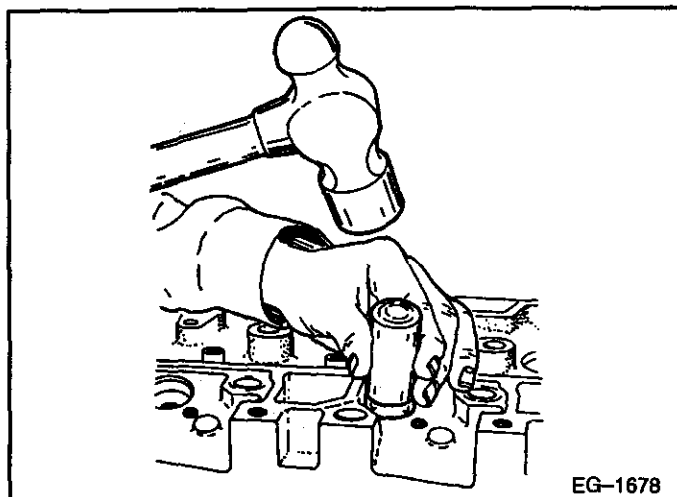

FIGURE 7-26
6. Install the nozzle liner using the nozzle liner installer J39261. Drive the liner until it bottoms in the bore. Refer to **FIGURE 7-26**.